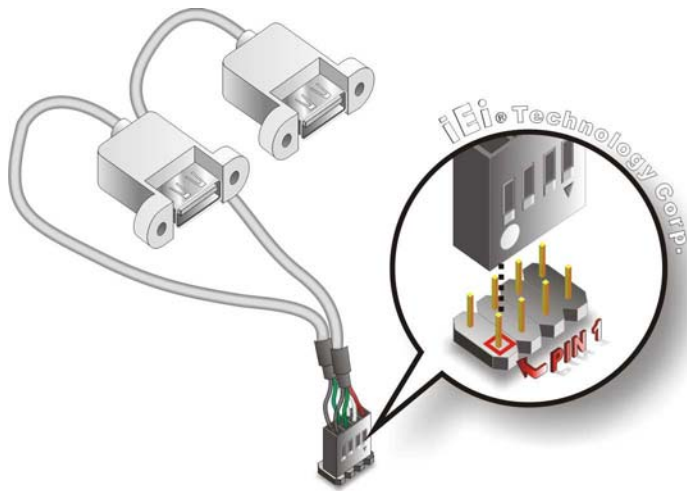

Figure 4-15: Dual USB Cable Connection
- Step 3: Insert the cable connectors.** Once the cable connectors are properly aligned with the USB connectors on the NANO-945GSE2, connect the cable connectors to the on-board connectors. See **Figure 4-15**.